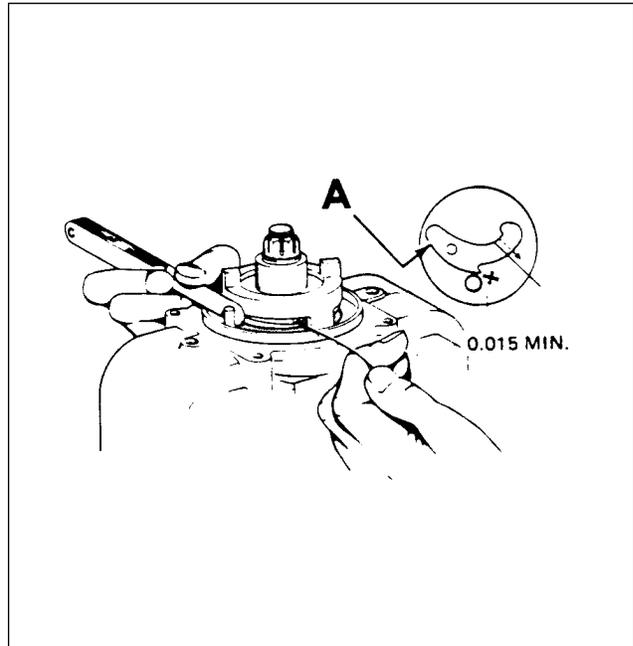

Figure 74-11. Checking Flyweight to Stop Pin Clearance
- b. Hold magneto as shown in figure 74-11. Pull heel of flyweight outward with fabricated hooked wire and make certain that a feeler gauge of 0.015 of an inch minimum thickness will pass between stop pin and highest point of flyweight.
*A true and accurate check of clearance between flyweights and stop pins can only be obtained by pulling flyweight outward as described. Do not attempt the check by pushing in on the flyweight at point A of figure 74-11.*